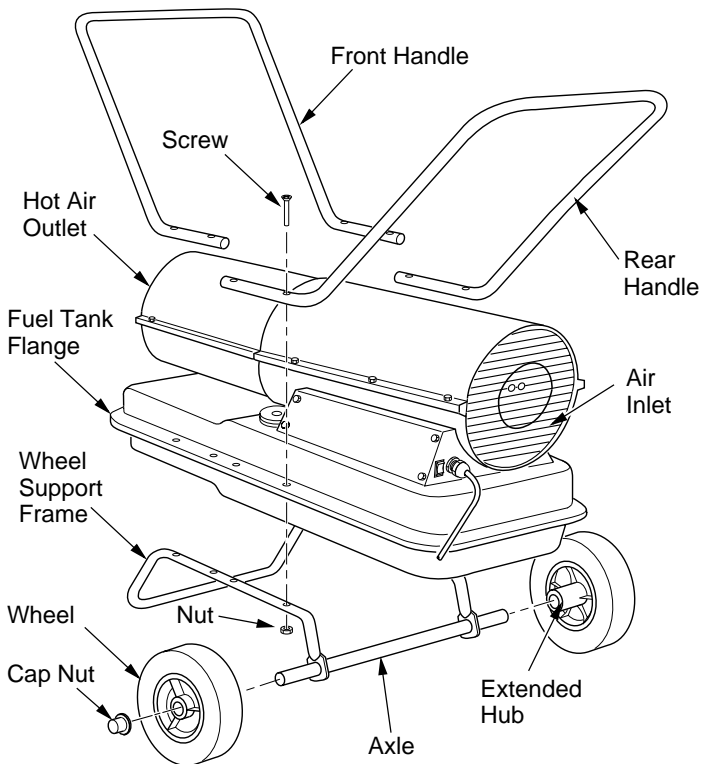

Figure 3 - Wheel and Handle Assembly
*IMPORTANT:* When installing wheels, point extended hub of wheels toward wheel support frame (see Figure 3).